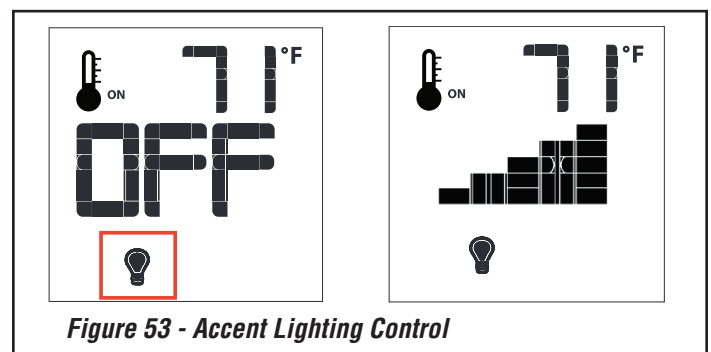

Figure 53 - Accent Lighting Control
The fireplace is equipped with warm white colored halogen accent lights. The lights can be controlled by the Proflame system. Light intensity can be adjusted through six (6) levels of brightness. To activate this function use the Mode Key to index to the Light icon, see **Figure 53**.
1. Pressing the Up Arrow Key will turn the lights on. Each time you press the Down Arrow Key, the lights intensity will reduce by one step (**Figure 53**).